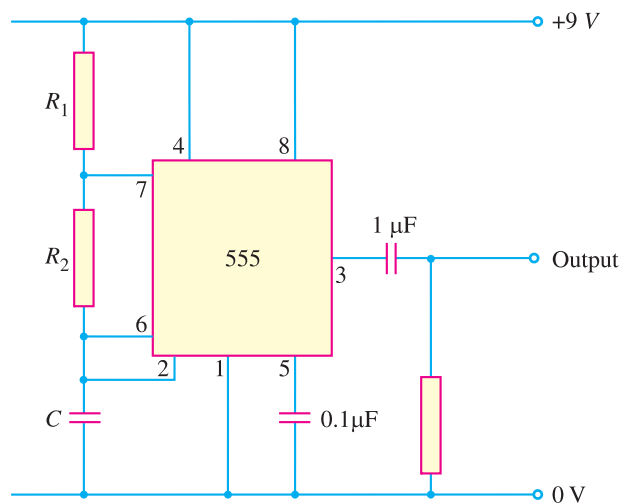

Fig. 23.18
(iv) The 555 Timer as astable multivibrator. Fig. 23.18 shows the 555 timer as an astable multivibrator. Note that the circuit contains two resistors (R_1 and R_2) and one capacitor (C) and does not have an input from any other circuit. The lack of a triggering signal from an external source is the circuit recognition feature of the astable multivibrator.
Example 23.3. Determine the frequency of the circuit shown in Fig. 23.18. Given that $R_1 = 3 \text{ k}\Omega$; $R_2 = 2.7 \text{ k}\Omega$ and $C = 0.033 \text{ }\mu\text{F}$.